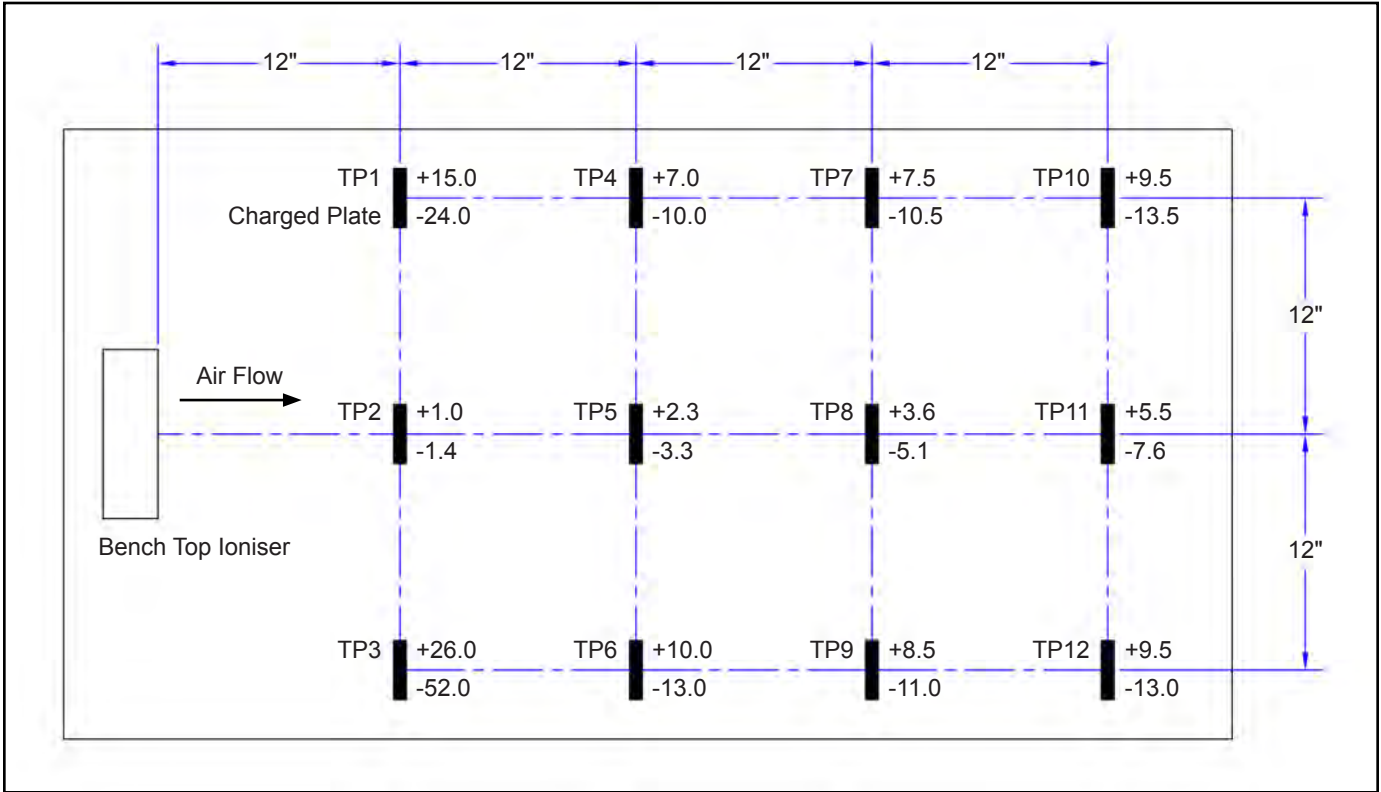

Figure 4. Neutralisation (Discharge) Times at 120VAC / 220VAC, 60Hz input
5. Test the neutralisation (discharge) time by applying a $\pm 1,000$ volt charge on the charged plate analyser. The neutralisation (discharge) time should be less than 2 seconds. See figures 4 and 5 for typical discharge times.
The comparative efficiency of bench top ionisers is determined by a standard test published by the ESD Association: ANSI/ESD STM 3.1. Typical positive and negative discharge times (1000V - 100V) measured using this standard are shown in Figures 4 and 5. The performance of the ioniser was measured with the unit positioned as shown, with the fan speed on high and without a filter.
Balance (offset voltage) at 30 cm in front of Ioniser (see Figures 4 and 5)